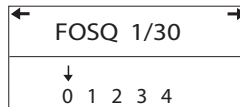

FIGURE 4–10 FOSQ SCREEN 1 OF 30
2. From the Standby screen, press the – button to first FOSQ screen, shown in Figure 4–10.